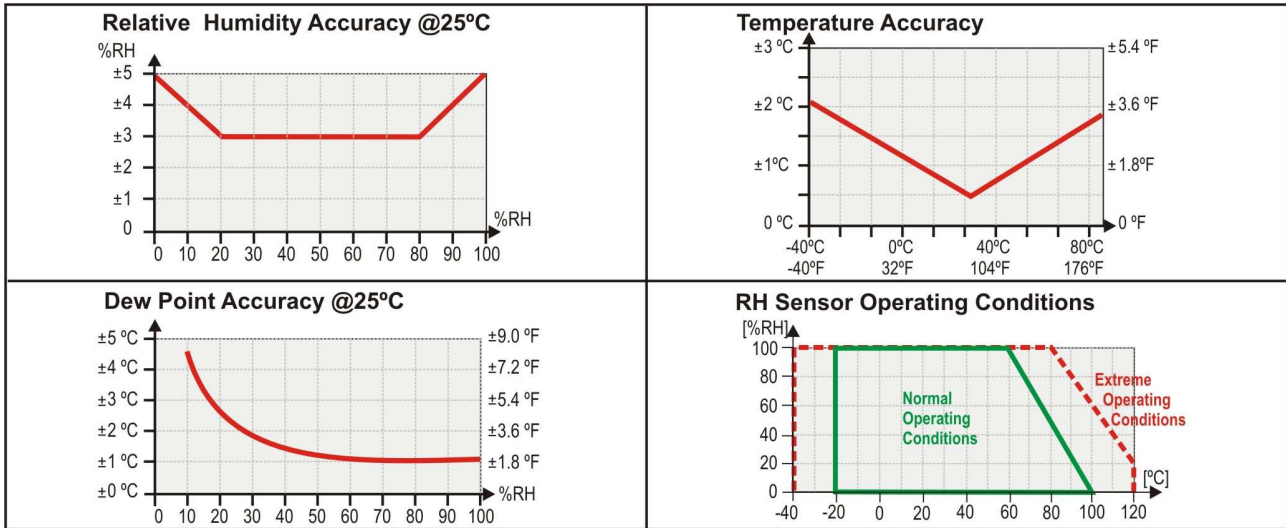

Figure 04 – Operating accuracy and conditions of RHT model
- **Maximum measurement range:** -20 to 100°C and 0 to 100% RH (available also as dew point). See Figure 04 "Humidity sensor operating conditions".
- **Accuracy:** See Figure 04.